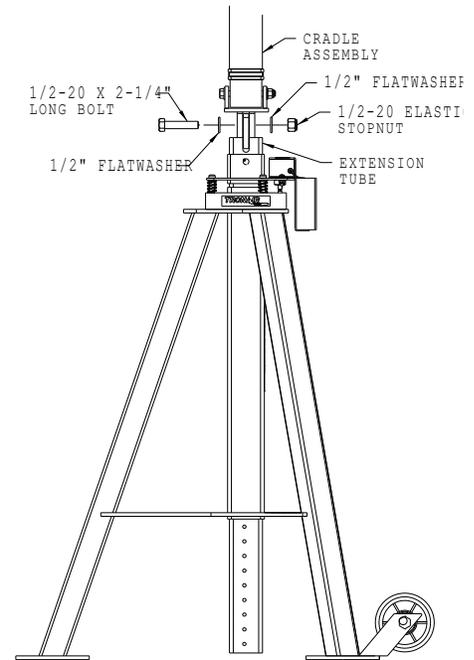

FIGURE 3
2. Fasten cradle assembly to extension tube with one (1) ½ - 20 x 2 ¼" long hex head bolt, two (2) ½" flatwashers, and one (1) ½ - 20 elastic stopnut. **Reference Figure 3.**